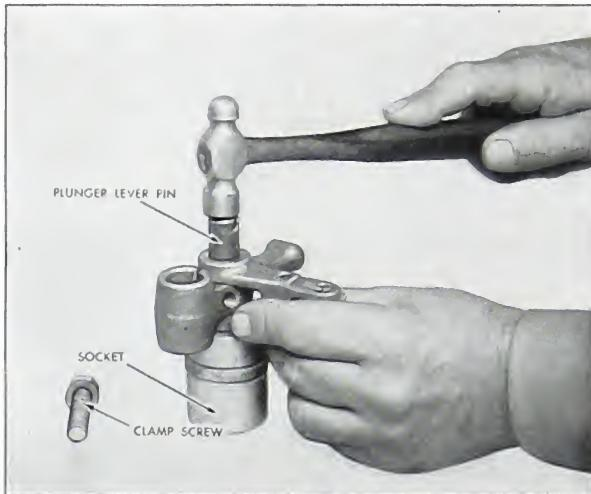

Fig. 5-40. Plunger lever pin
2. Drive the pin from the plunger lever, making sure not to lose any of the 56 needle bearings in which it is mounted. If the plunger lever is placed on a 1 1/2" socket during the operation, the socket will catch the needle bearings. Fig. 5-40.